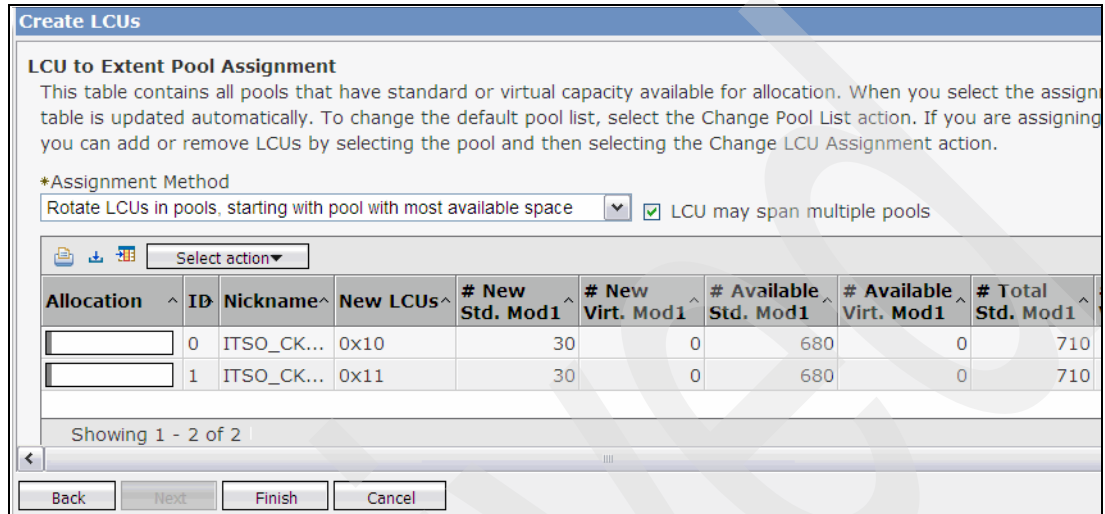

Figure 13-70 LCU to Extent Pool Assignment window
- In the next window (Figure 13-70), you can change the Extent Pool assignment to your LCU. Select **Finish** if you do not want to make any changes here.